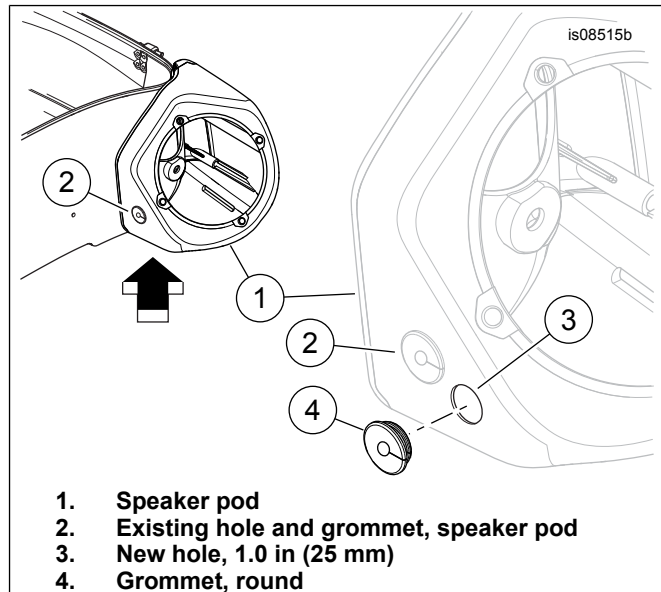

Figure 1. Grommet Installation
See Figure 1. Drill a **new** hole (3) in each speaker pod (1), away from the existing grommet (2), approximately where shown.